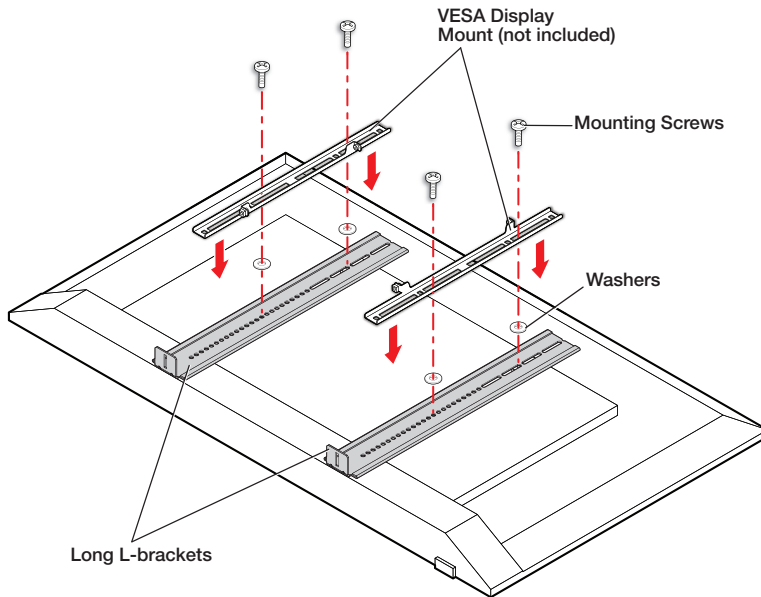

Figure 2. Installing VESA display mount
7. Tighten the bolts and permanently fasten the display onto the VESA wall mount previously attached in figure 2.